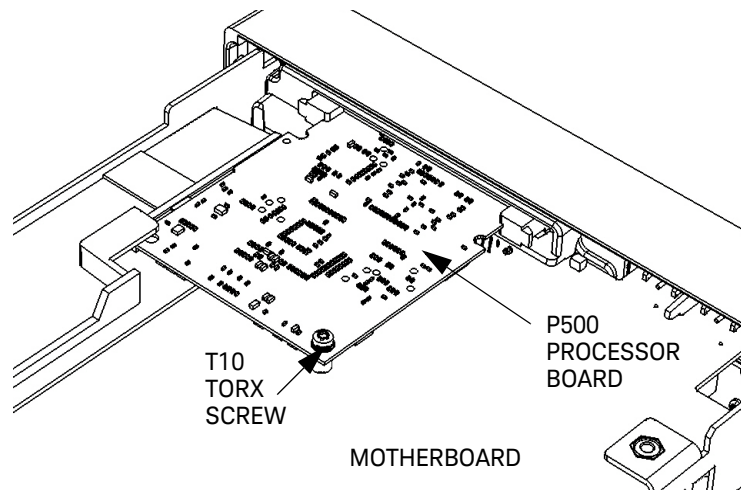

Figure 4-17 Processor printed circuit board.
- 2 Turn the chassis upside down. On the bottom of the motherboard, remove the T10 TORX screw that secures the smaller processor board to the motherboard (see Figure 4-17).